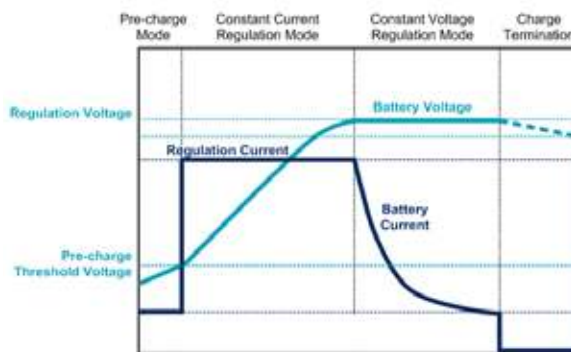

Figure 23: Pre-Charge and Charge Voltage/Current Diagram
The Charger supports pre-charging and normal charging as explained in Figure 23. The charger starts at constant current mode (CC) to get the battery voltage to the predefined voltage level. It then switches to constant voltage mode and continues until the current drops below the expected threshold indicating that the Battery has reached the charging limits.